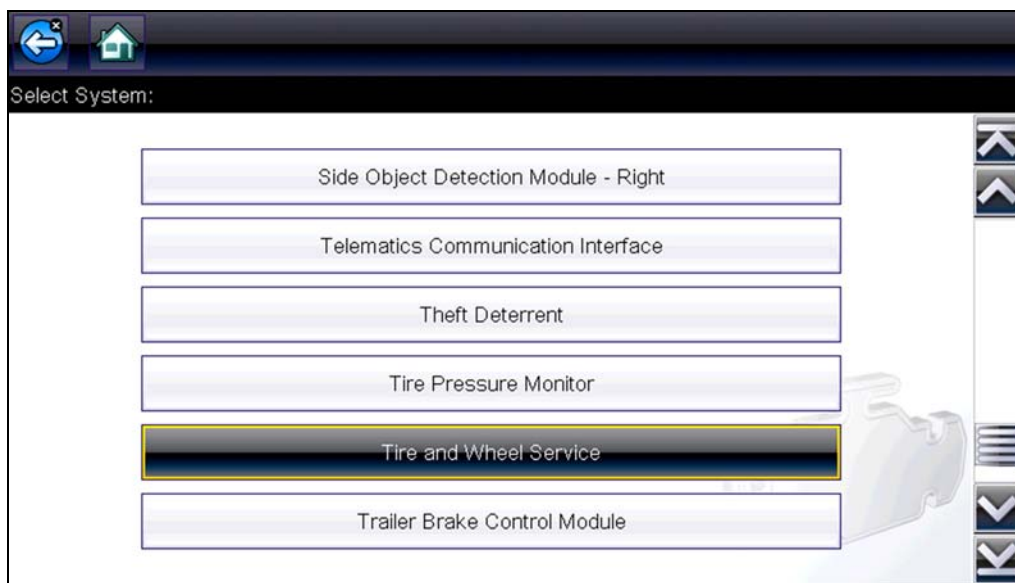

Figure 8-11 Scanner System Menu
- **From within a current Scanner session** - select **Tire and Wheel Service** (or applicable choice) from the System menu (Figure 8-11), then proceed to Step 3 below.